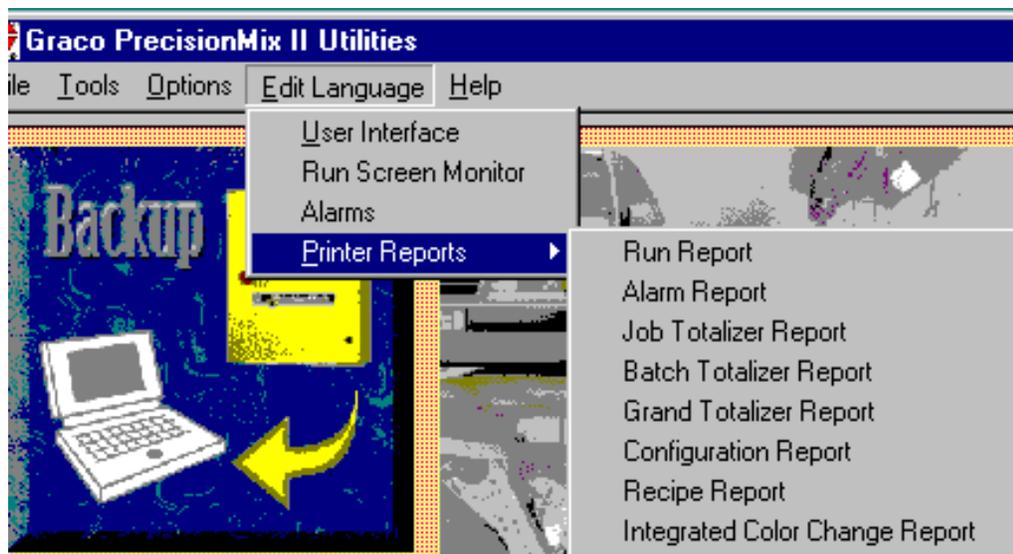

Fig. 13.61
1. Select Edit Language ► Run Screen Monitor or Alarms or Printer Reports ►, choosing what you want to edit. See Fig. 13.61.